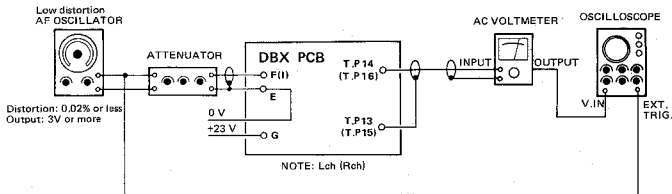

Fig. 5-17 Connections for DECODER adjustment (1)
2. Make the Fig. 5-17 connections, then feed 100 Hz,  $-8$  dB (308 mV) to the F/I (INPUT) terminal.